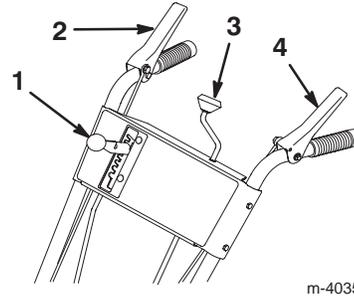

Figure 7
2. Move the speed selector (Fig. 7) on the control panel to the **R₂** (**Reverse**) position.